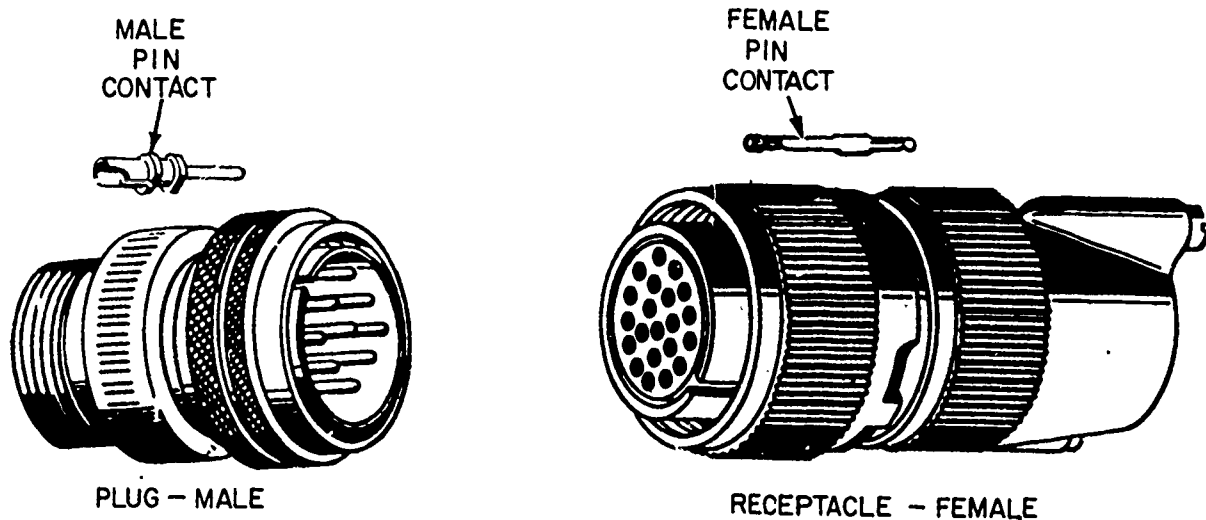

Figure 7. AN-Connector.
b. A detachable electrical AN-connector, figure 7, has a plug (male) and receptacle (female) assembly. The two parts are fastened together by means of a coupling nut. You must take care not to crosstread, strip, or jam the nut. Notice also, that the pin contacts in the AN-connector have cups in which a wire can be place and soldered.